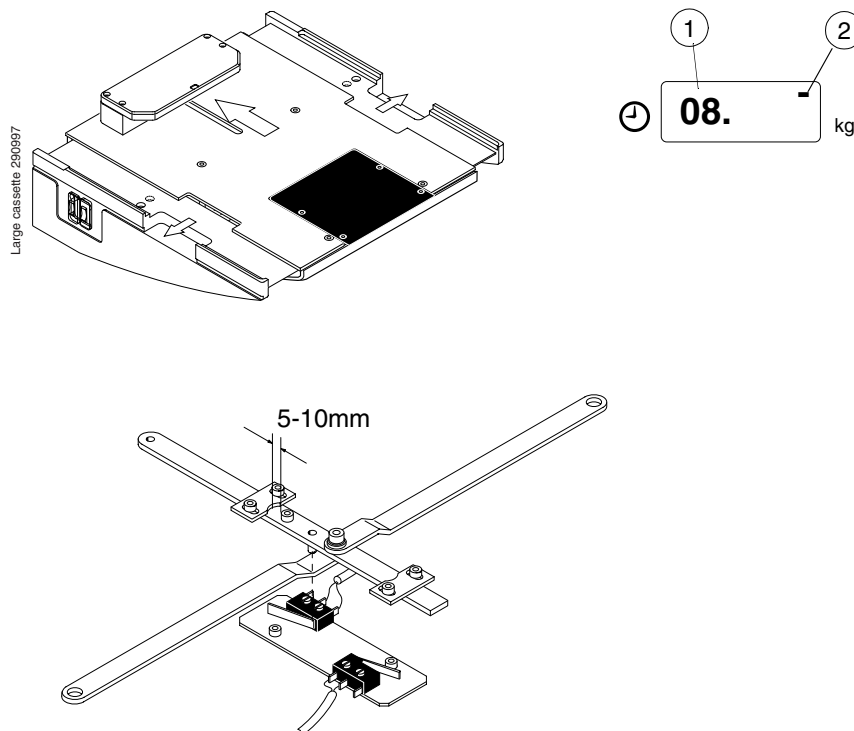

Figure F.39
- The right upper signal (Fig. F.39, 2) on the display should light when the labeling head is 5 - 10 mm from the extreme position.